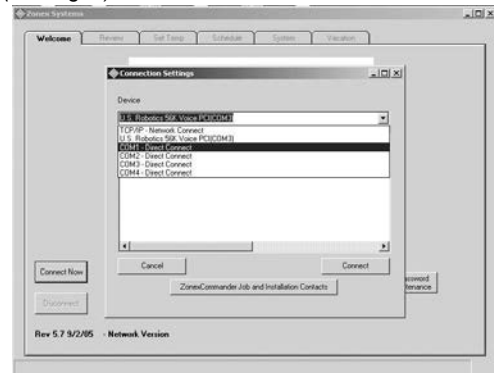

Fig. 3
- B. Verify that the **Connection Settings** window appears (see Fig. 3).